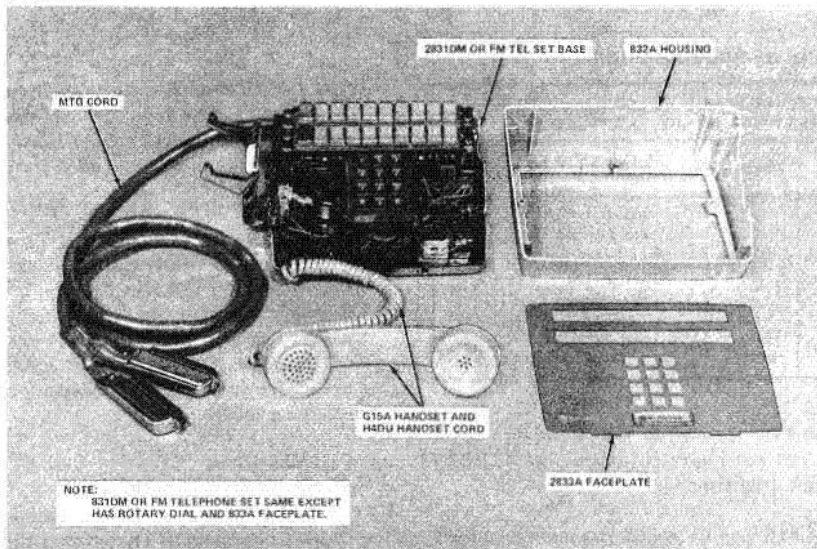

Fig. 2—Station Modular Arrangement, 2831DM (MD) or 2831FM Telephone Set
**3.01** Install the completely assembled telephone set or assemble the required components to the telephone set base (Fig. 2).